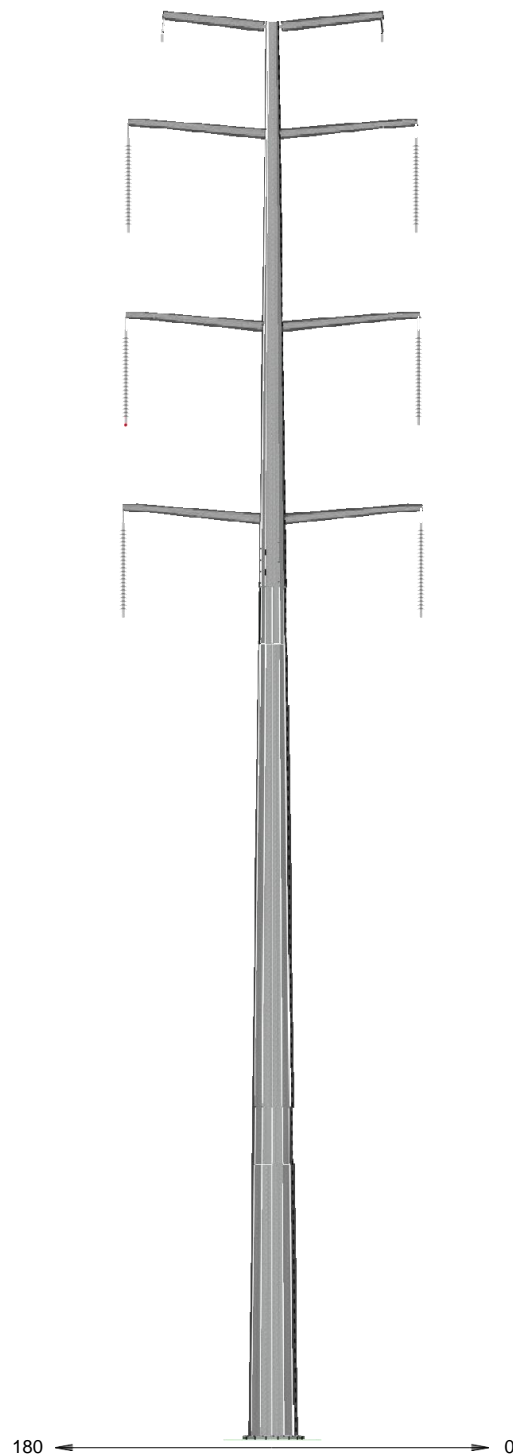

FIGURE G-8
- Figure G-8: Single-Circuit 230 kV Single-Pole, Tangent, Vertical Configuration on Davit Arms with Suspension Insulators